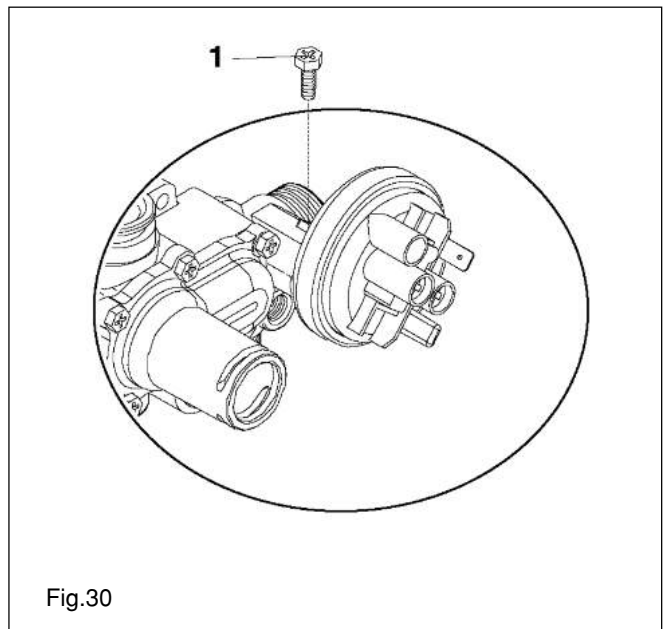

Fig.30
6.8 WATER PRESSURE SWITCH (see fig. 30)